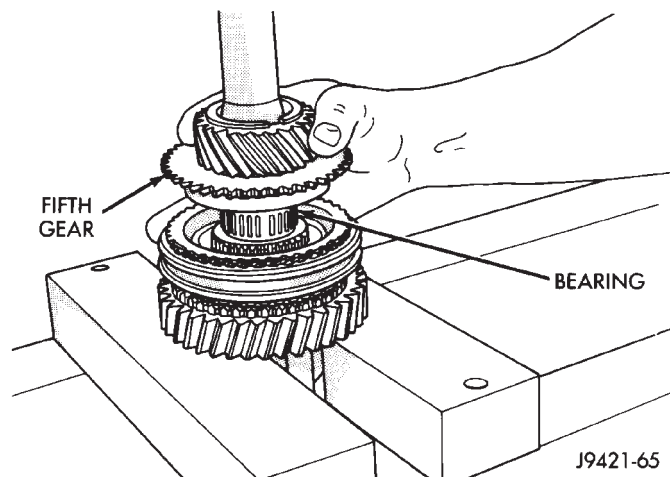

Fig. 60 Fifth Gear Installation
(12) Install fifth gear on shaft and onto bearing (Fig. 60).